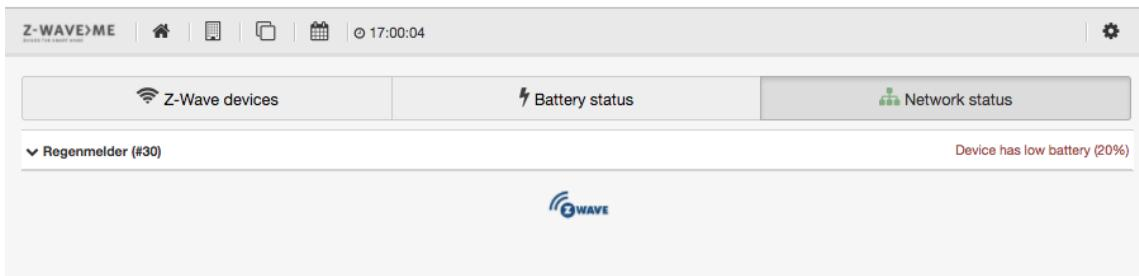

Figure 4.26: Z-Wave device network status
- Figure 4.26 shows a list of network status messages. This can be warnings for empty battery, devices lost, devices replaced, etc. Clicking on the device name lists all the elements created by this physical device.